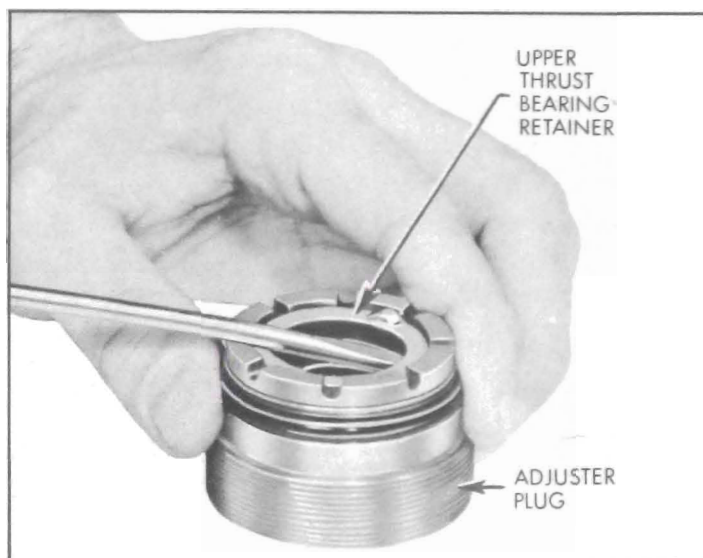

Figure 8-30—Removing Upper Thrust Bearing Retainer
1. Remove the upper thrust bearing retainer with a screw driver, being careful not to damage the needle bearing bore. See Figure 8-30. Discard retainer. Remove thrust bearing spacer, upper thrust bearing and thrust bearing races.